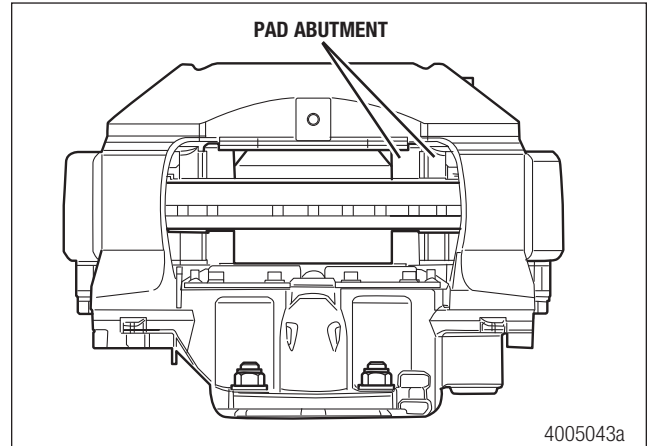

Figure 4.13
7. Inspect the carrier for signs of damage or wear. Pay particular attention to the pad abutments. Figure 4.13.